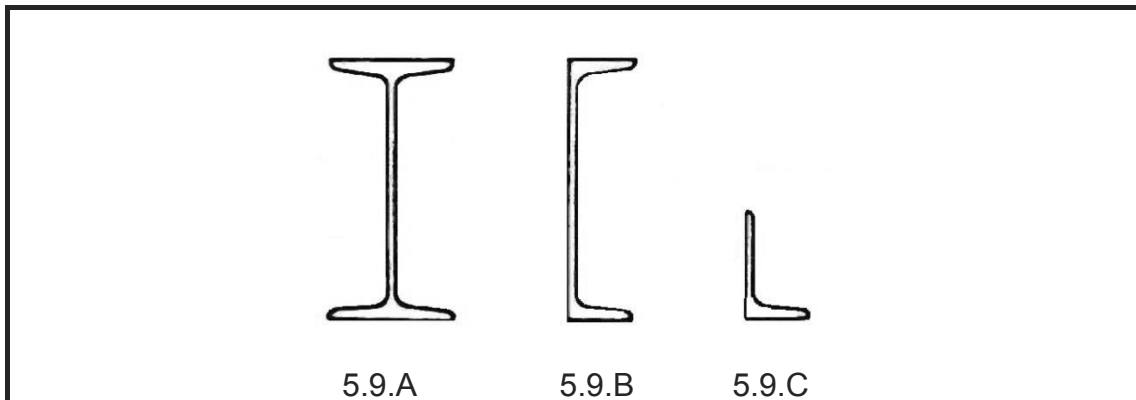

FIGURE 5.9
5.9 Answer the following questions with regard to the steel profiles in FIGURE 5.9.
5.9.2 What type of steel profile in FIGURE 5.9 is most commonly used? (1)